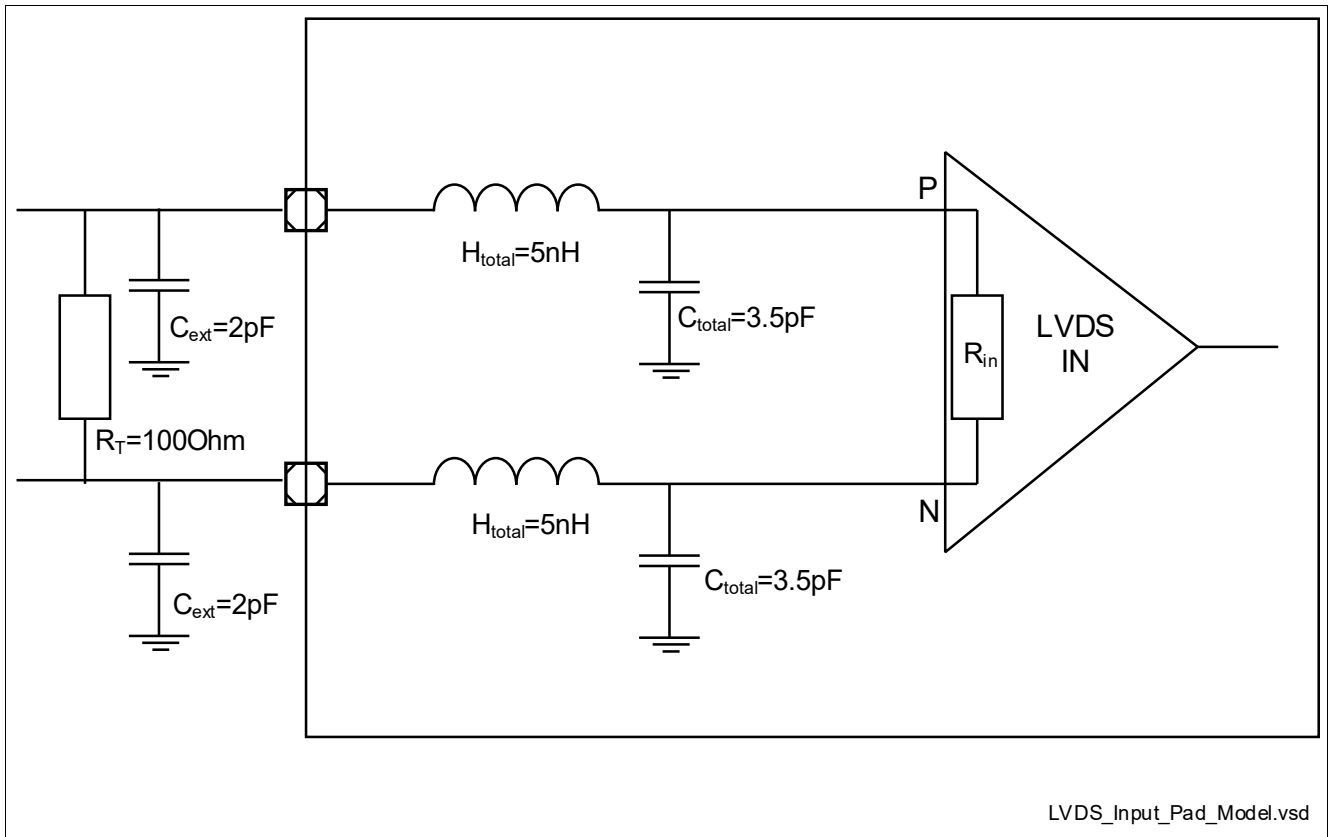

Figure 3-1 LVDS pad Input model
*Note:  $R_T$  in table 'LVDS - IEEE standard LVDS general purpose Link (GPL)' is as termination resistor of the receiver according to figure 3-5 in IEEE Std 1596.3-1996 and is represent in **Figure 3-1** either by  $R_{IN}$  or by  $R_T=100Ohm$  but not both.*